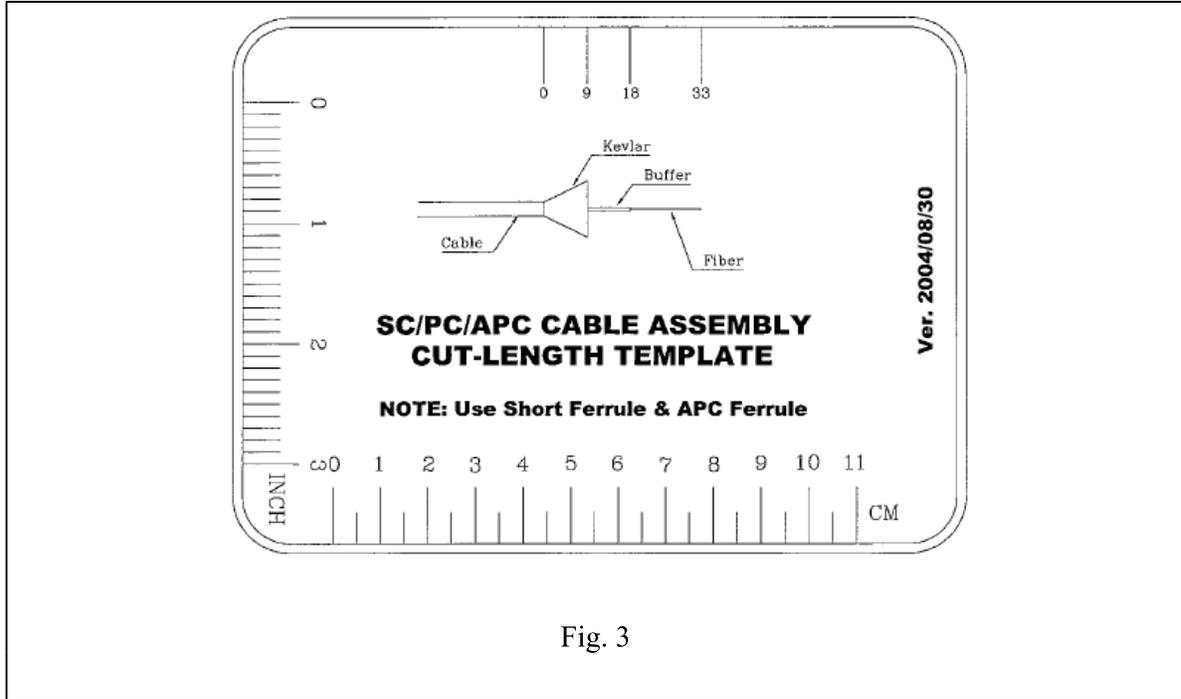

Fig. 3
Step 2 Use Jacket Stripper to cut cable jacket and Kevlar. See Fig. 3 for correct dimensions.
Step 4 Use Buffer Stripper to remove the require length of buffer and use alcohol and lens wiper to clean the bare fiber. See Fig. 3 for correct dimensions.